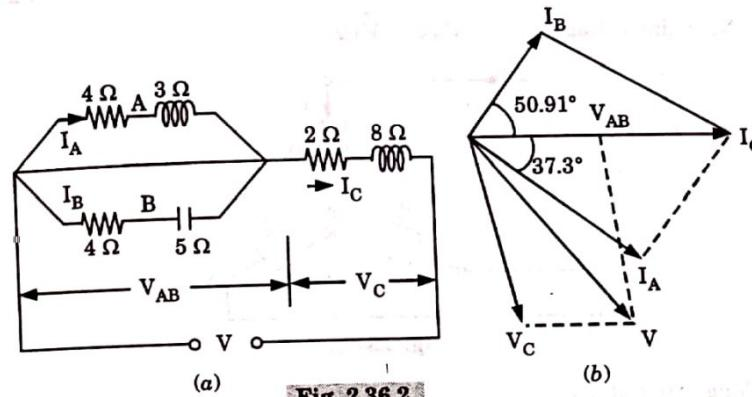

Fig. 2.36.2.
9. Various voltages and currents are shown in Fig. 2.36.2. Powers would be calculated by using voltage conjugates.